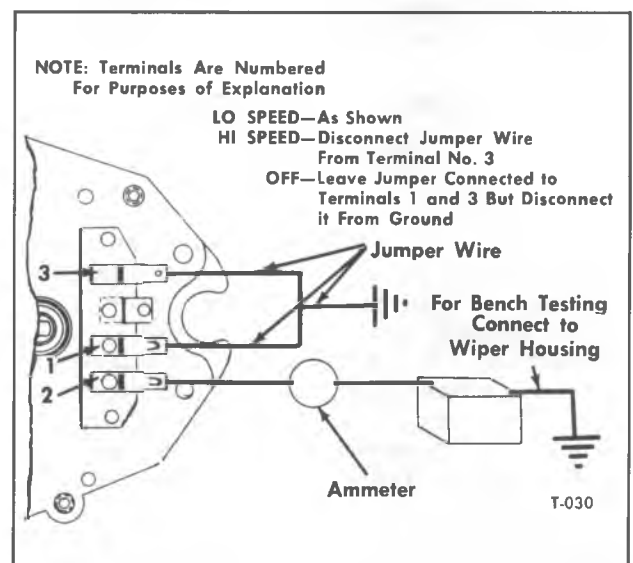

Figure 17—Troubleshooting Wiper Motor Circuit
2. Disconnect the wiring harness from wiper motor and try operating wiper independently of the dash switch as shown in figure 17. If wiper operates correctly independently of the dash switch (shuts off correctly with crank arm in "PARK" position) refer to possible causes below:
3. If wiper still fails to operate correctly, remove it from cab, then remove covering from over drive gears and check parking switch contacts which may be broken or stuck in closed position; check for a grounded lead at No. 1 or 3 terminals (fig. 17), or for a grounded shunt field.
5. If wiper still fails to operate, disconnect wiring from motor, and check for 12 volts at motor No. 2 terminal (fig. 17). No voltage indicates defective wiring.